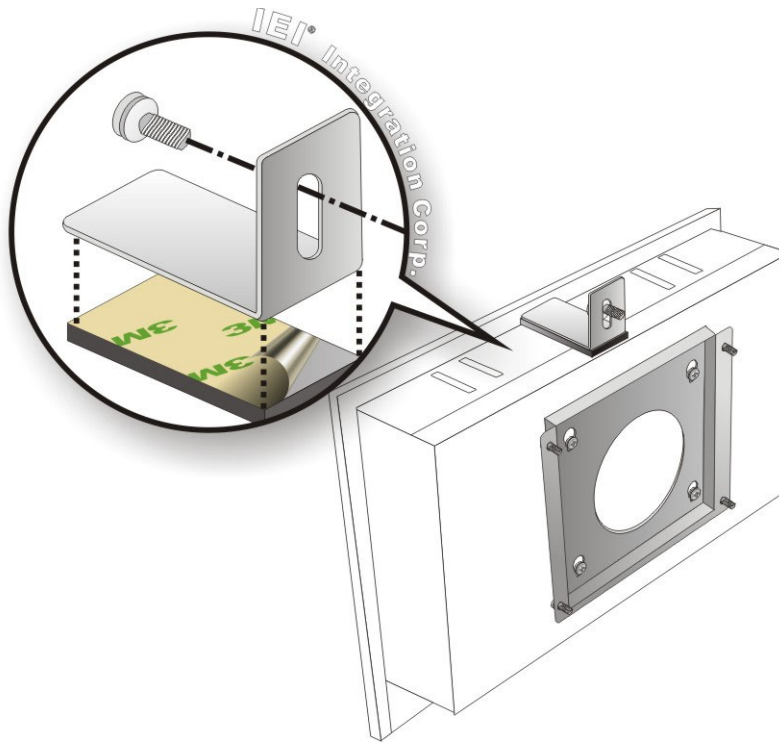

Figure 3-28: Secure the Chassis
Step 9: Secure the panel PC with the wall-mounting kit. To do this, stick the protective cushion to the wall-mounting kit first. Then, put the wall-mounting kit on the top panel of the panel PC. Carefully mark the location of the wall-mounting kit screw holes on the wall. Drill a pilot hole at the marked location on the wall. Secure the wall-mounting kit to the wall by inserting a retention screw into the pilot hole on the wall (**Figure 3-28**). This step is to avoid the panel PC being pushed apart from the wall-mounting bracket accidentally.